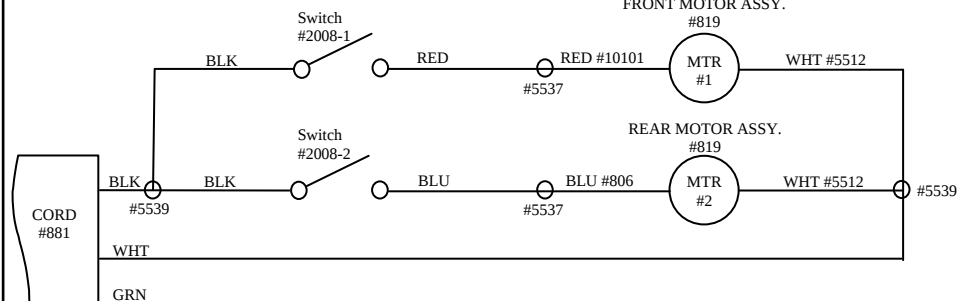

Fig. 1 Side
- a. Loosen the two brush assembly retainer screws (Fig. 3, Ref #1) to loosen the brush assembly retainer (Fig. 3, Ref #2), remove field clip (Fig. 3, Ref #3) and then remove brush assembly (Fig. 3, Ref #4), replacing it with a new one. (Note: IMPORTANT - the brush has a small tab on the bottom that MUST be fitted into the slot on the motor frame for proper positioning) (Fig. 1, Ref #5)